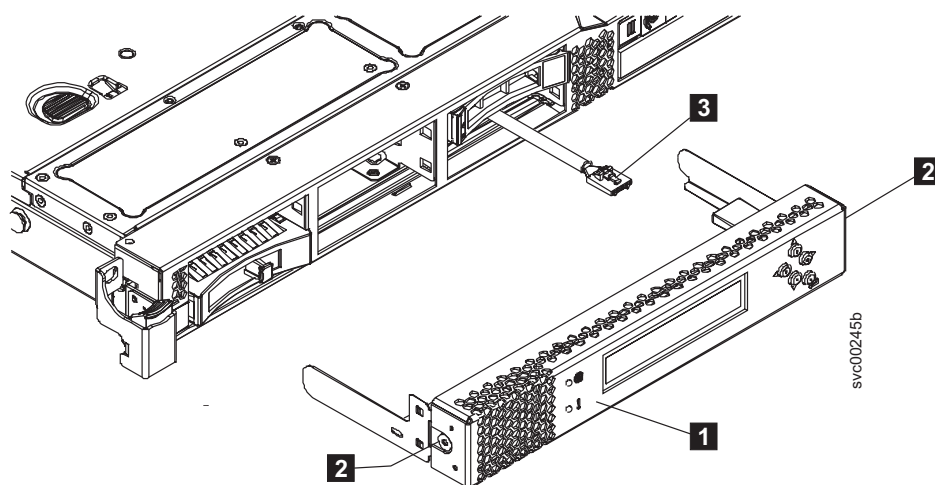

Figure 73. SAN Volume Controller 2145-CG8 or 2145-CF8 service controller
8. If you are intending to replace the service controller FRU, detach the USB cable, shown by **3** in Figure 73, from the service controller.